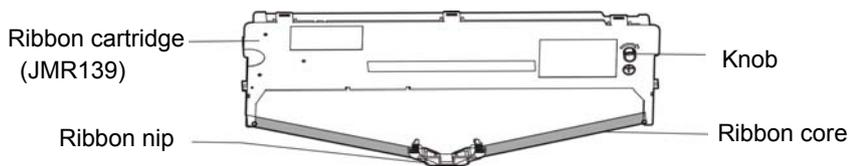

Figure 2-9 Ribbon cartridge
4. Take out the ribbon cartridge, the side with knob faces with user, turn the ribbon knob according to the arrow direction, so that the ribbon core can be tighten and it is easily to install (as shown in Figure 2-9).